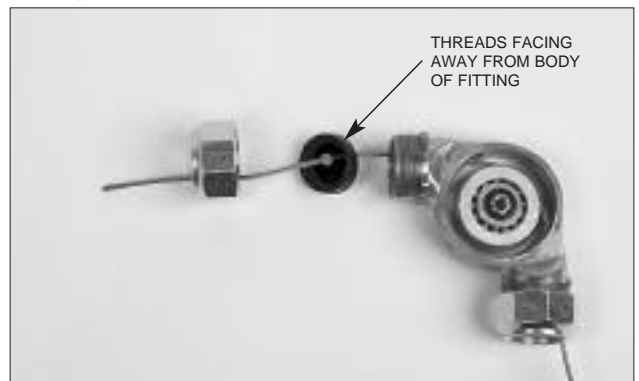

FIGURE 2
2. Thread the stainless steel wire rope through the EMT conduit connector and flexible conduit insert. Make certain thread in flexible conduit insert is facing out toward end of connector. See Figure 2.